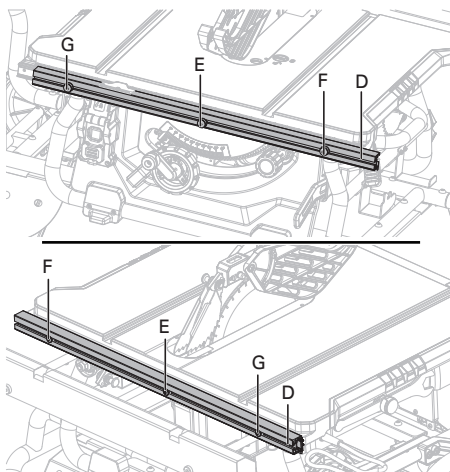

Fig. 11b
- Push down the fence rails lever (A) toward the rear of the saw to unlock it.
- Loosen the rip fence locking knobs (B) on the rip fence.
- Sliding the rip fence (C) to right and swing it up at an angle, then remove the fence from the front and rear fence rails (D).
⚠CAUTION: There are three position screws (E, F, G) on the each front and rear fence rails (D) to attach rip fence. Position screws (E, F) use for rip fence on the right of saw blade. Position screws (G) use for rip fence on the left of saw blade. (Fig. 11b)